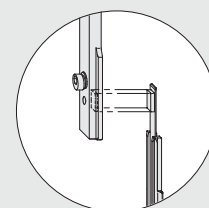

Figure 1
- Gear set M6 **F** Screw ESG LM M6 (28) and operating rods S1 and S2 together using coupling screw M6 (27) (PZ 2, torque 2.75 ± 0.25 Nm).
- > **G** Couple corner drive VSU/BSO (36) with locking bolt (35). Make sure positioning of coupling piece for corner drive VSU/BSO (36) is correct (Figure 1).
- > **H** Couple VSO (33) with operating rod S3 and secure using clamping piece EUL (34).
- I** Attach handle LM (1a) and handle support LM (38) with cheese head screw M5 x 12 (26) (torque 2.5 ± 0.25 Nm). Make sure the handle catch closes into the coupling bracket (25).
- Gear set M6 **J** Attach window handle (1b) to ESG LM M6 (28) using countersunk screw PZ M5 x 35 (29) (PZ 2, torque 2.5 ± 0.25 Nm).
- K** Screw stay hinge (11/17) and stay LM 4200-D (20) together using countersunk screw M5 x 7 (10/16) (torque 2.5 ± 0.25 Nm), press stay LM 4200-D (20) horizontally onto the BSO as far as it will go and fasten with punching screws (torque 2.5 ± 0.25 Nm).
- BS LM 4200 **L** Press bottom hinge pin (2) into corner hinge (5) DIN right or DIN left.
- BS LM 4200 **M** Insert clamping piece E (6) vertically on the BSU and attach corner hinge (5) using countersunk screws M5 x 8.5 (4) (torque 2.5 ± 0.25 Nm).
- BS LM 4200/SV **N** Insert corner hinge right/left (13) in the sash groove and fasten with the pre-installed countersunk screws M5 x 8.5 (torque 2.5 ± 0.25 Nm).
- > **O** Insert locking bolt (31) centrally on the BS and fix in place with grub screw (torque 1.5 ± 0.25 Nm).